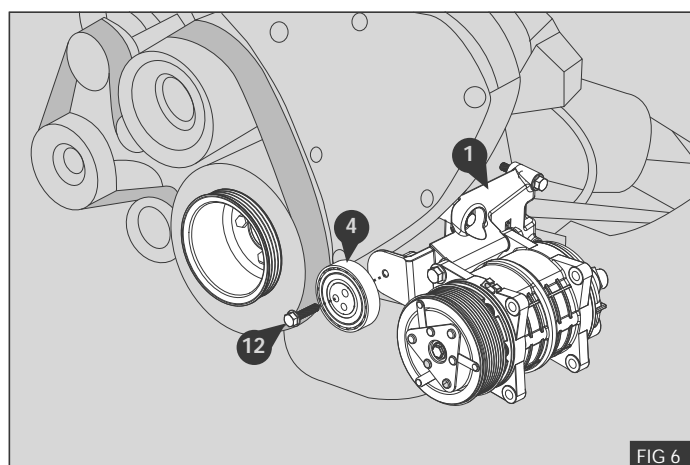

FIG 6
5. Fit the supplied Eccentric pulley ④ to the mount bracket ① using bolt ⑫ but do not tighten at this stage - Fig 6